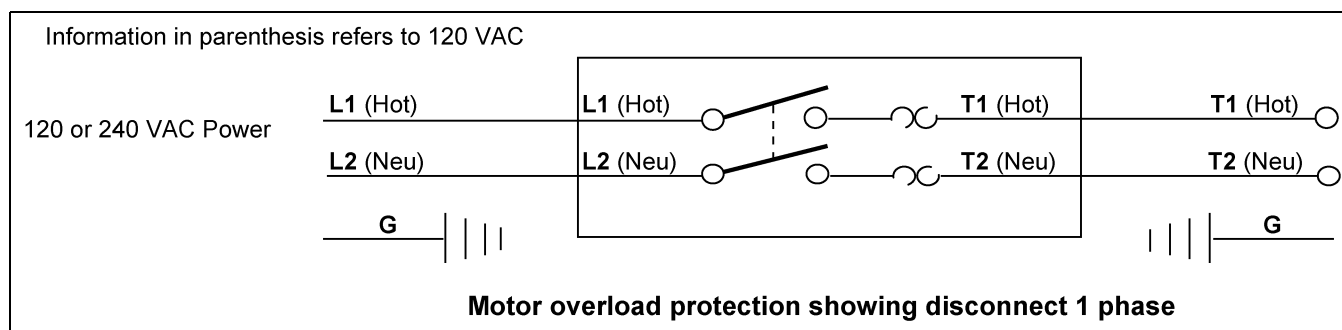

Figure 4B
3. Fans used to ventilate livestock buildings or other rooms where continuous air movement is essential should be connected to individual electrical circuits with a minimum of two (2) circuits per room. For connection requirements, refer to diagram on the motor nameplate. For 1 phase fans, motor overload protection should be provided for each fan. A safety cut-off switch should be located next to each fan. A circuit breaker switch or slow blow motor type fuses must be used. (See Figure 4B.) 3 Phase fans require three (3) pole contactors with overload protection.